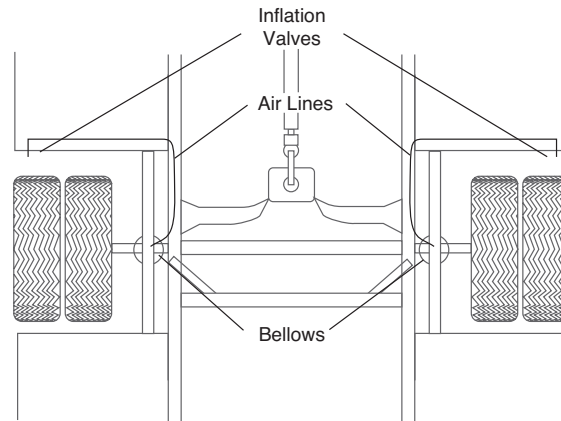

fig. 6
6. Select a location for the inflation valves in the rear bumper area or rocker panel flange insuring that each valve will be protected and accessible with an air hose (Figure 6).
8. Route the air line from the inflation valve location along the frame rail to the air springs. Route the air line so that it will be protected from the direct heat from the muffler or tailpipe and kept away from sharp edges. The air line should not be bent or curved sharply (Figure 6). Attach air line to chassis with the provided plastic straps.